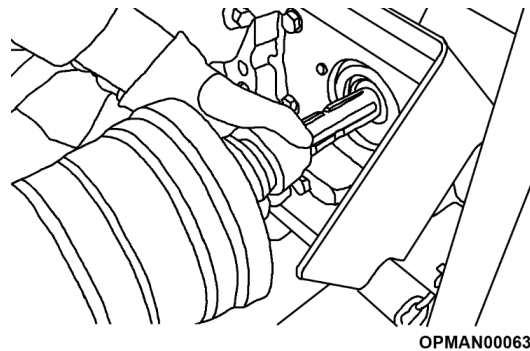

Figure 4.18 – Fit Input Driveshaft To Tractor
- 4.5.1.4 Push the driveline yoke onto the tractor output PTO driveline, release the locking collar and position the yoke of the input PTO driveline until the locking collar balls are seated onto the tractor's output PTO driveline; see Figure 4.18.